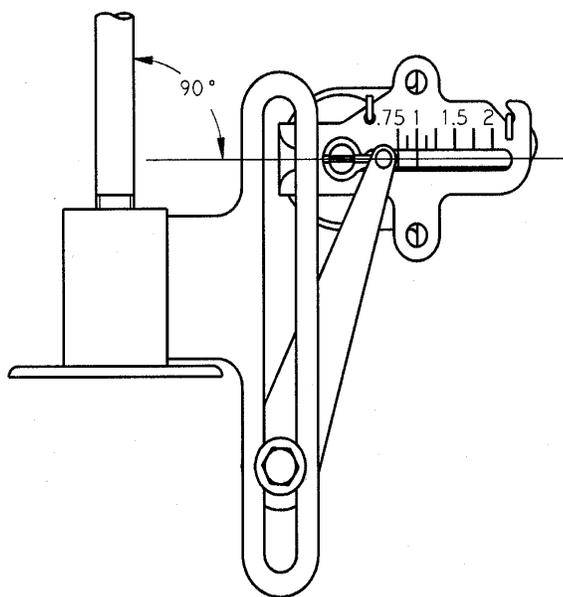

Figure 5-1. Crossover Point
6. Select the direction and size of change required to set the feedback arm so it is 90° to the actuator stem, as shown in figure 5-1. Once the feedback arm is in the right position, select Mark Current Position.
7. Select the direction and size of change required to set the feedback arm so it is 90° to the actuator stem, as shown in figure 5-1. Once the feedback arm is in the right position, select Mark Current Position.